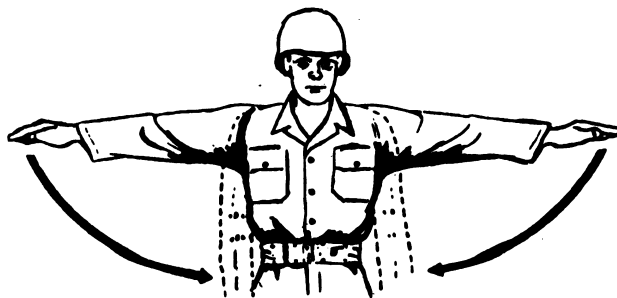

Figure 7. Move downwards.
g. To indicate downwards, extend arms sideways, horizontally, with palms turned down, beckoning downwards by moving arms down to sides of body (fig. 7).